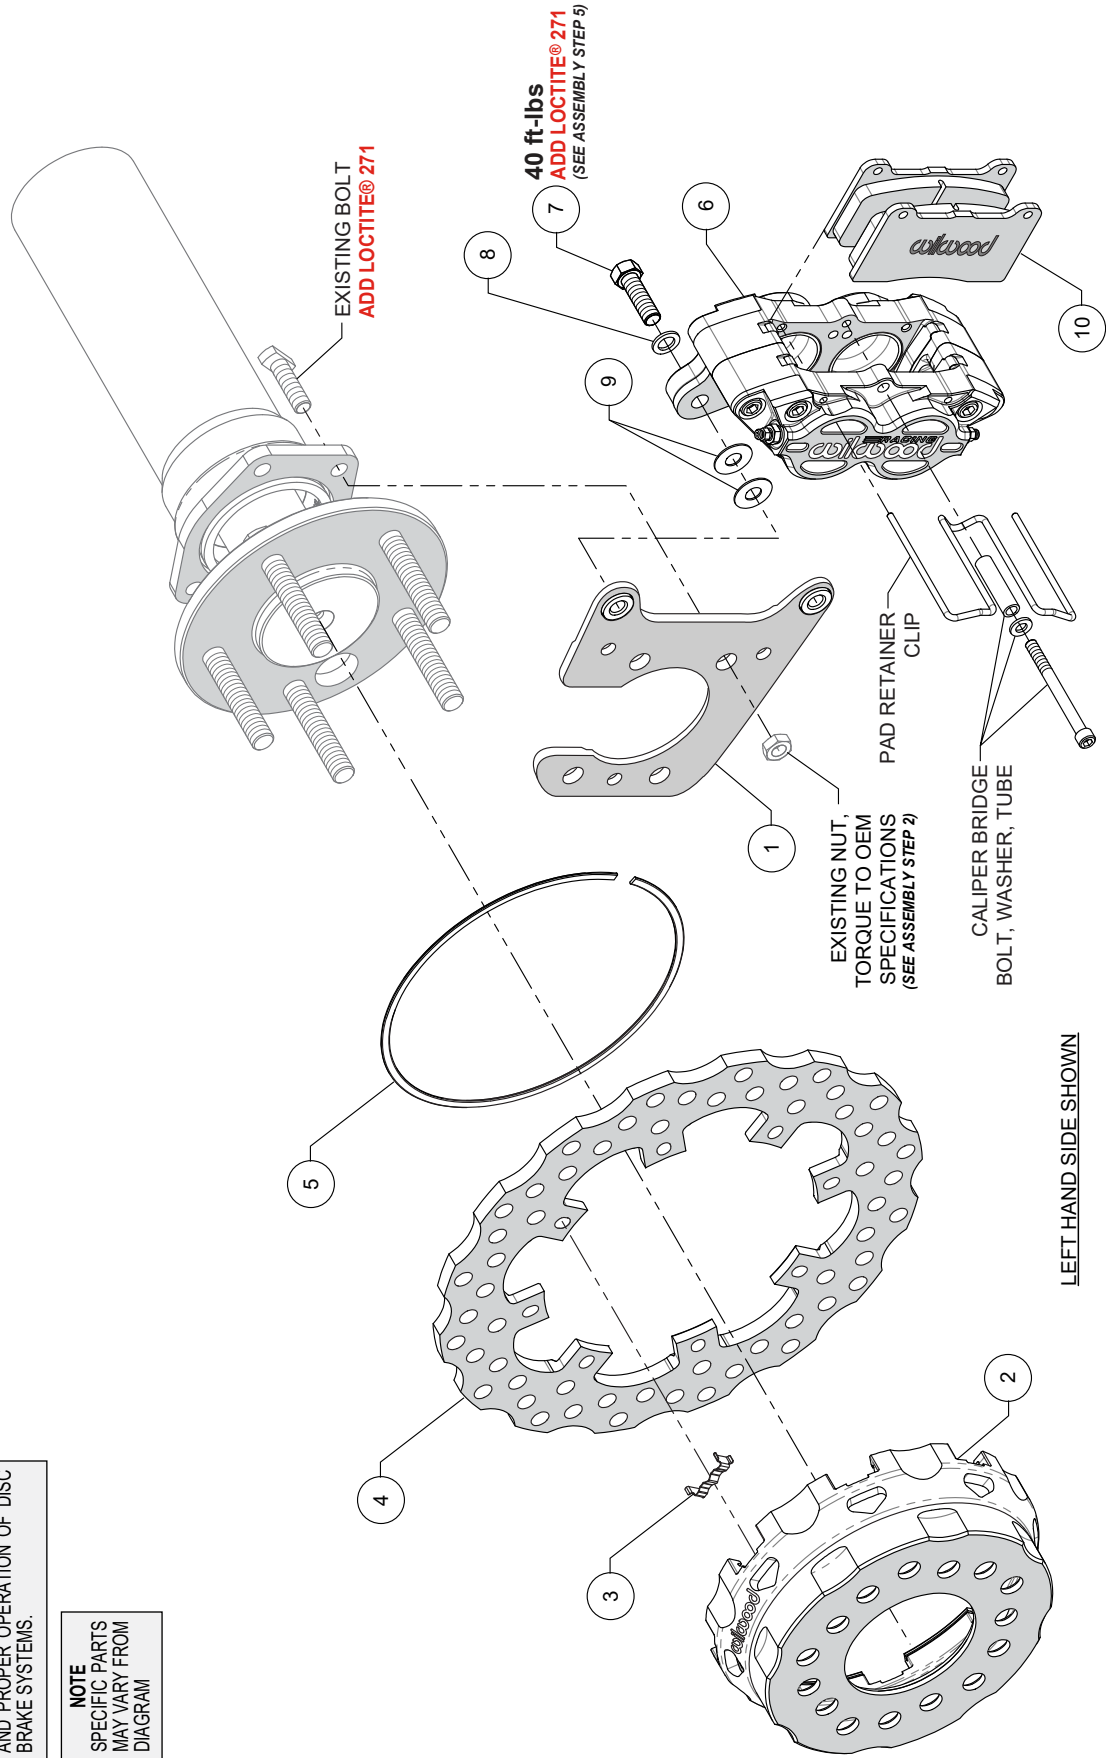
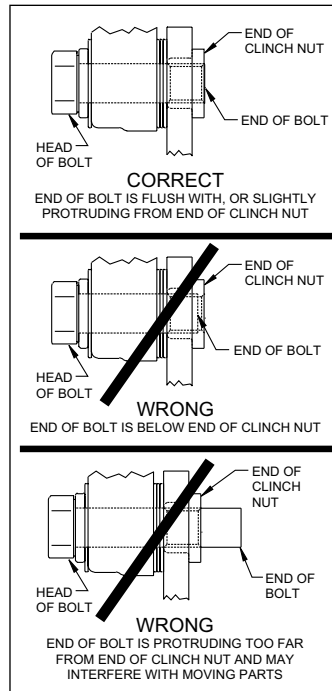
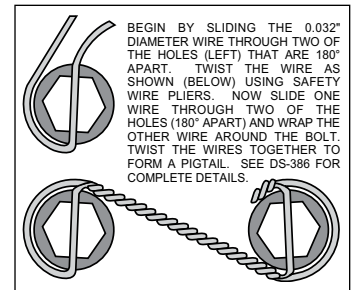

Figure 1. Typical Installation Configuration
Figure 4. Clinch Nut Engagement Diagram
Figure 5. Safety Wire Diagram
Numbers in parenthesis refer to the parts list and Figure 1 on the preceding pages.
CAUTION: All mounting bolts must fully engage clinch nuts. Be sure to check that all bolts are either flush or protruding through flanged side of clinch nut after shimming, Figure 4.
STEP 2 Install the caliper mounting bracket (1), with the slot for the axle pointing upward, to the housing flange using the OEM bolts and nuts, as shown in Figure 1 and Photo 1. Ensure that the heads of the clinch nuts are facing outboard, Photo 1. Apply red *Loctite*® 271 to the OEM bolt threads and torque nuts to OEM specifications.
STEP 3 Insert the dynamic mount wear clips (3) into the slots in the hat (2), Photo 2. Orient the rotor (4) as shown in Figure 1 and Photo 3 with the flush side of mount lugs facing the hat. Secure the rotor to the hat using the snap ring (5) by simultaneously pushing down on the rotor and installing the ring into the groove in the hat, as shown in Photos 3 and 4. **Carefully inspect snap ring to ensure complete engagement in the groove.**
STEP 5 **NOTE:** Please reference the caution statement at the beginning of the assembly instructions. Mount the caliper (6) onto the mounting bracket (1) using bolts (7) and washers (8), as shown in Figure 1. Initially place two .035" thick shims (9) on each bolt between the caliper and the bracket, Photo 6. Temporarily tighten the mounting bolts and view the rotor (4) through the top opening of caliper. The rotor should be centered in the caliper, Photo 7. If not, adjust the caliper by adding or subtracting shims (9) between the bracket and the caliper. Always use the same amount of shims on each of the two mounting bolts. **NOTE:** The end of each bolt must be flush with or slightly protruding from the head of the clinch nut. If necessary, place spare shims between washer and caliper mounting ear to achieve the proper clinch nut engagement, as shown in Figure 4. Once the caliper alignment and clinch nut engagement are correct, remove the bolts (7) one at a time, apply red *Loctite*® 271 to the threads, and torque to value shown in Figure 1. For an added measure of security, the bolts may be safety wired using standard 0.032 inch diameter stainless steel safety wire as shown in Figure 5. Please refer to Wilwood's data sheet DS-386 (available at www.wilwood.com/Pdf/DataSheets/ds386.pdf) for complete safety wire installation instructions.
STEP 6 Remove the caliper bridge bolt, washer, tube, and pad retainer clip from the caliper, Figure 1. Insert the brake pads (10) into the caliper with the friction material facing the rotor (4), Photo 8. Secure in place using the pad retainer clip and reinstall the bridge bolt, washer, and tube, Photo 9. The bolt should be snug without play in the tube. Be cautious not to over tighten.